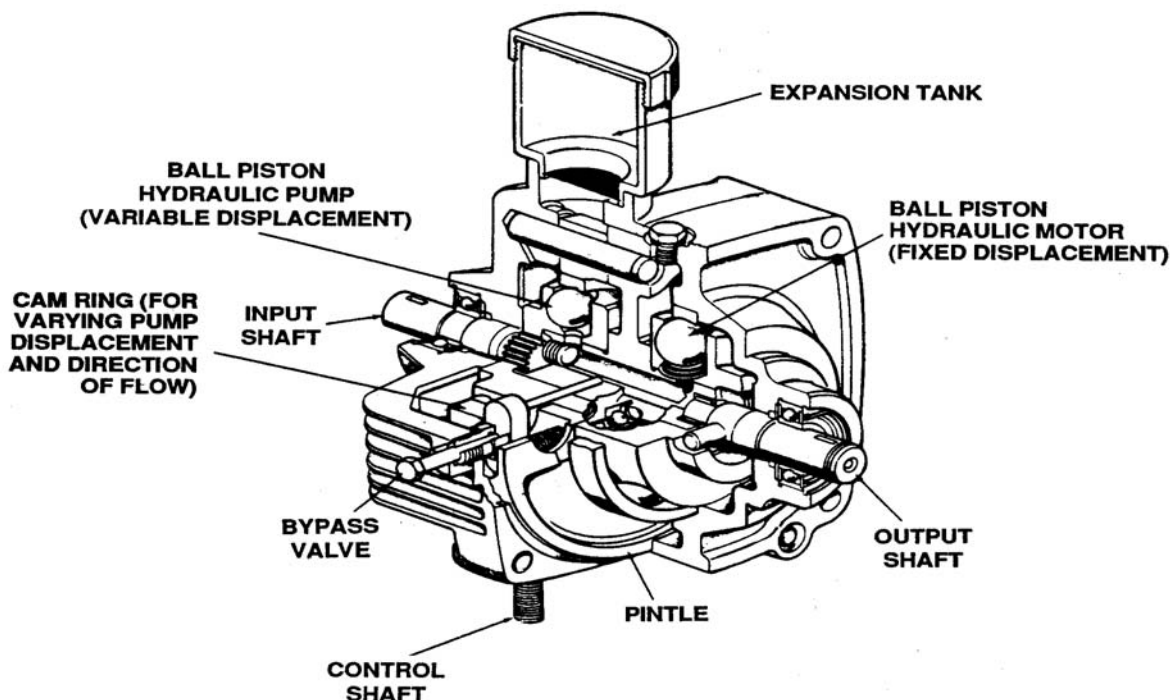

Figure 6-2. Model 7 Hydrostatic Transmission
1. Fluid flows through an internal closed loop between the pump and the motor. The flow is directed by the pump to the motor and then back to the pump. Because of leakage, the amount of fluid driven back of the motor is slightly less than that required by the pump. See Figure 6-2.